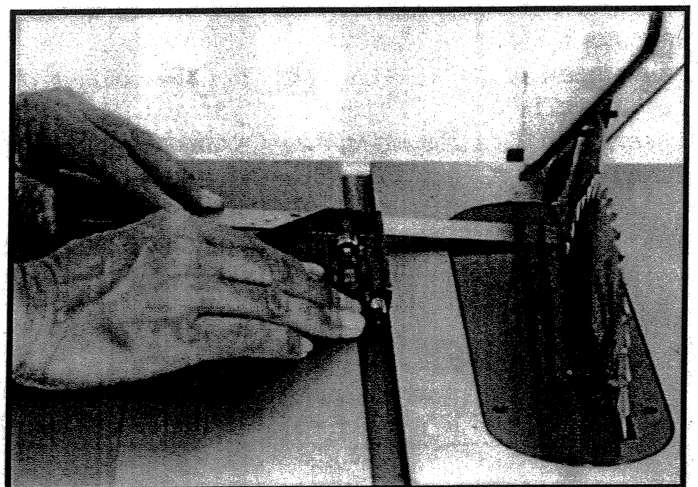

Fig. 68
3. Rotate the saw blade so that the same tooth you used in **STEP 2** is in the rear position, as shown in Fig. 68, and check this distance. Both the front and rear measurements should be identical.